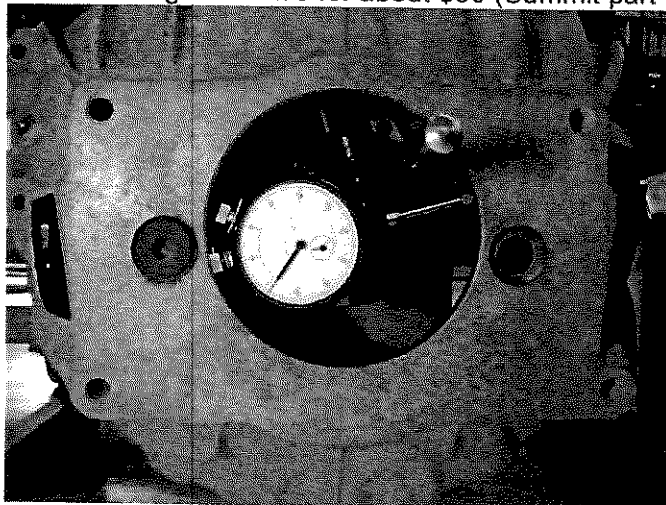

Fig. 1
2. Install magnetic dial indicator base on the flywheel/end of crankshaft and adjust the dial plunger so that it contacts the inside edge of the register bore of the bellhousing (**Fig. 1**). If you need to create space for the dial indicator base to sit flat on the flywheel, remove two of the flywheel bolts that are directly across from one another. Please note that the dial indicator base does not need to be dead-centered on the crank during this process but it must be solidly mounted. If you do not have a dial indicator, Summit Racing has an inexpensive one with a magnetic base for about \$30 (Summit part #SUM-900016-1).